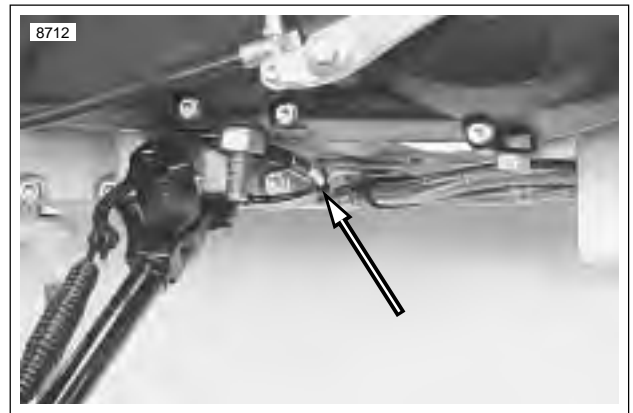

Figure 3-21. Sidestand Switch with Cable Strap
22. See Figure 3-21. Cut cable strap securing sidestand switch harness.